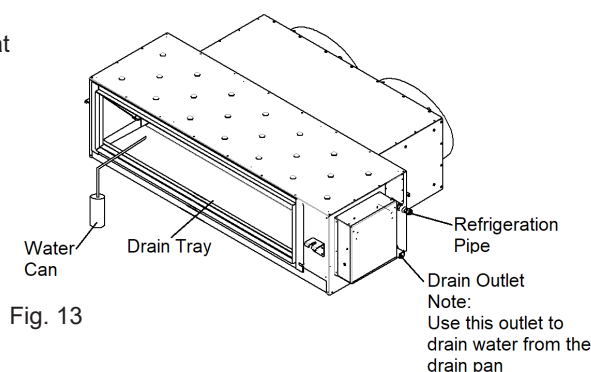

Fig. 13
- (2) After the piping work is finished, check that the drainage flows smoothly.
- Pour approximately 1 Litre of water gradually into the drain tray and check drainage flow. (Fig. 13)